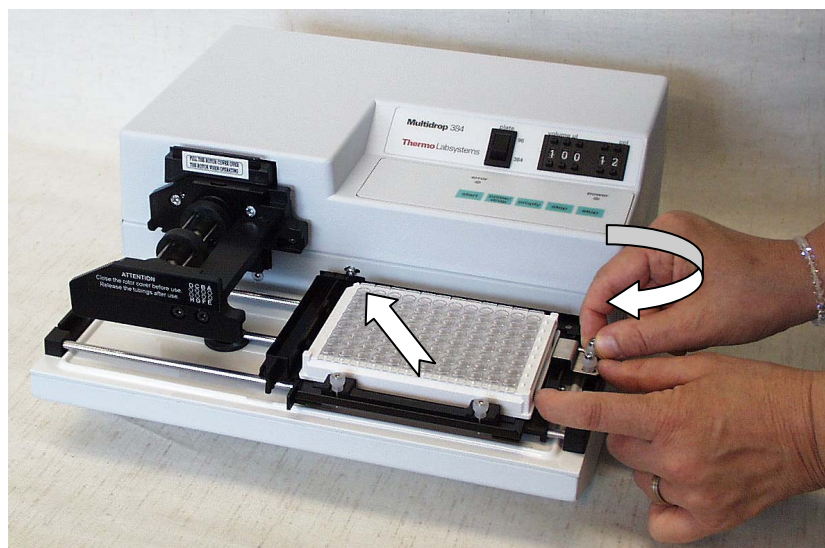

Fig. 6.15 Fastening the screws to the right of the plate carrier
8. Then fasten the screws to the right of the plate carrier, pushing the microplate simultaneously towards the left-hand corner of the plate adapter (Fig. 6.15). If the instrument is used for robotics, leave sufficient moving space for the microplate according to the robotic specifications.